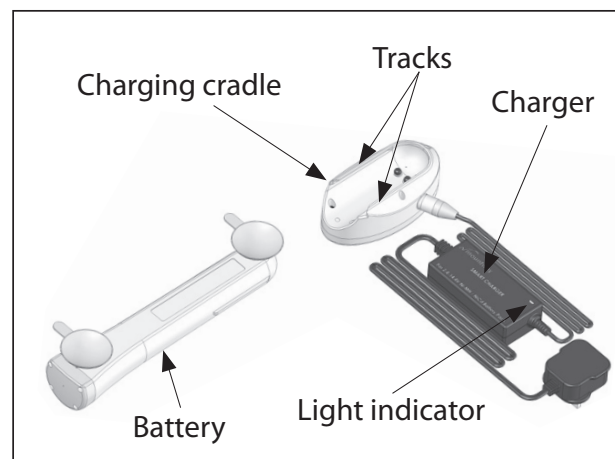
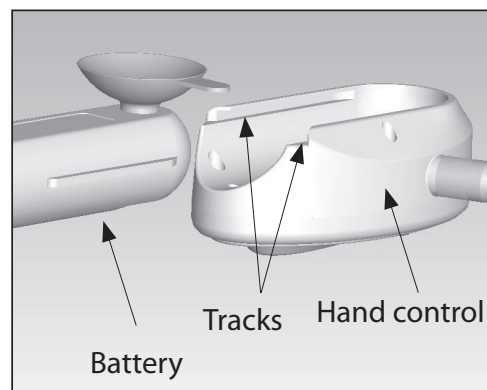

Figure 1
Figure 3
1. Charge the battery by sliding it into the tracks on the charging cradle (**fig 1**) and plugging it into the mains.
- Sliding the charged battery fully into the tracks on the hand control (**fig 3**);
- A bath lift, complete with two side flaps and hand control attached **(see fig 1)**
- iv) It is essential that the side flaps (**see fig 1**) do not catch under any obstructions such as integral bath/tub handles, handrails, soap dishes and taps/faucets when rising. If your bath/tub has integral handles and the side flaps are likely to catch, optional side flap protectors are available (see section 15, "Accessories"). These hook over integral bath/tub handles (**see fig 3**) and help guide the side flaps smoothly over the handles.